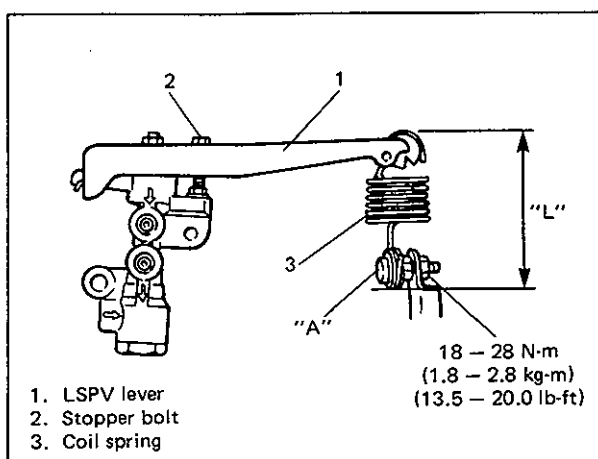

Fig. 5-108-6
- 4) If it isn't, adjust it to specification by changing bolt "A" tightening positions as shown in Fig. 5-108-6. After adjustment, tighten nut to specified torque.
For details, refer to Fig. 5-108-6.